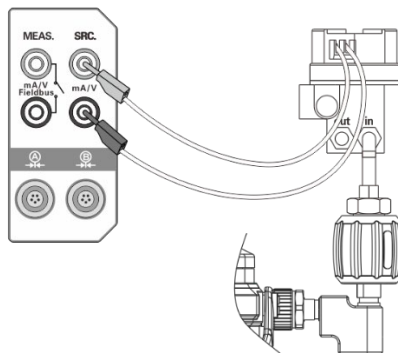

Figure 26 Calibration of an I/P converter
- ◆ Connect as shown in Figure 26.